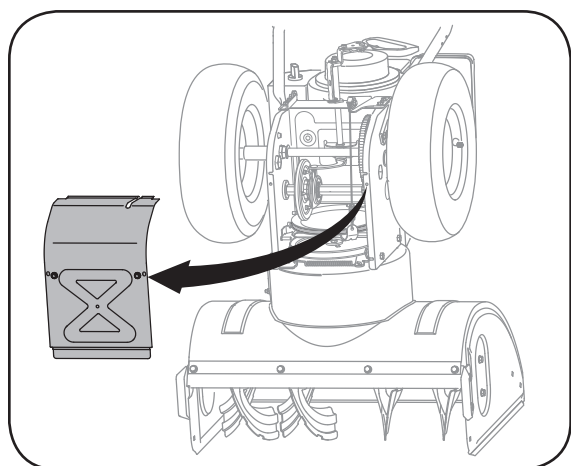

Figure 6-5
2. Carefully pivot the snow thrower up and forward so that it rests on the auger housing. Remove the frame cover from the underside of the snow thrower by removing four self-tapping screws which secure it. See Figure 6-5.